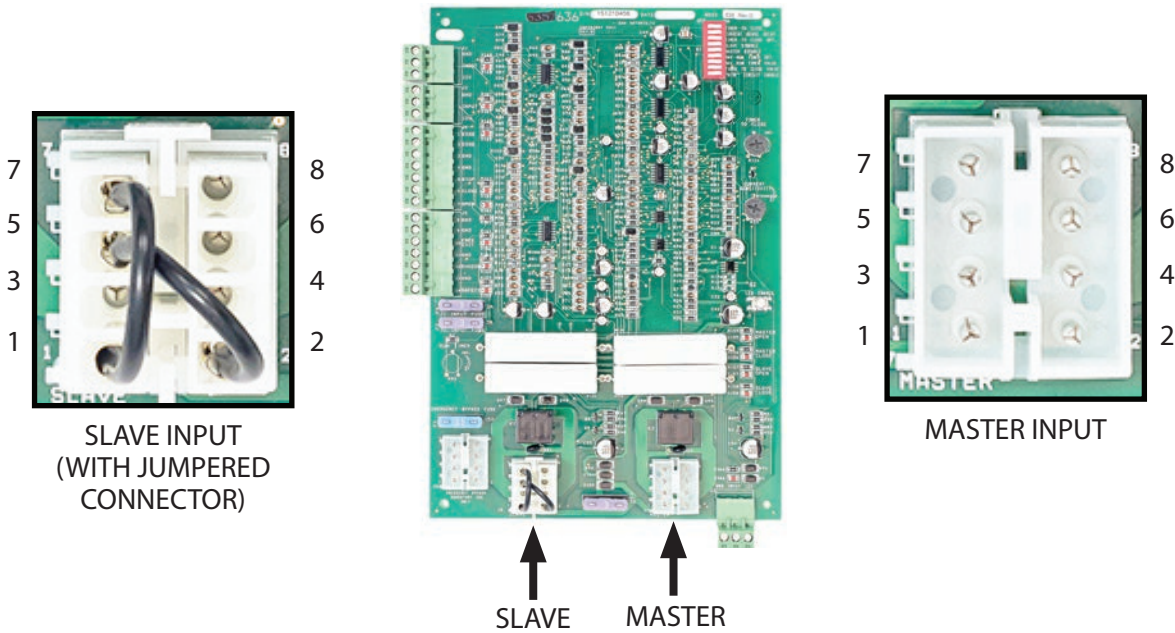

FIGURE 8-1: ACTUATOR CONNECTORS
For a single gate system, the unused SLAVE connector is populated by a connector with jumpers (FIGURE 8-1). Pull-to-Open (Standard) and Push-to-Open configurations use different wiring in the actuator harness/connector to reverse limit detection (PINS 1 & 2) and motor direction (PINS 3 & 4).
NOTE: The unused SLAVE connector is populated with jumpered connector for single gate system, as shown in FIGURE 8-1. This jumpered connector is removed if the SLAVE connector is used for a second actuator.
1. Locate the MASTER and SLAVE input connectors on the 636 control board per FIGURE 8-1.